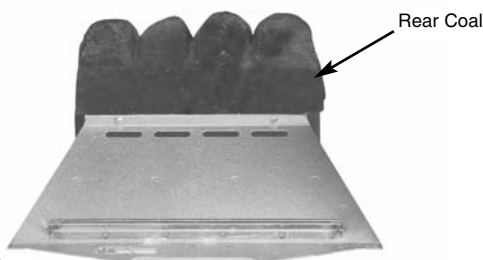

Fig. 53
1. Place the rear coal on the rear coal retainer ledge in a central position (Fig. 53).